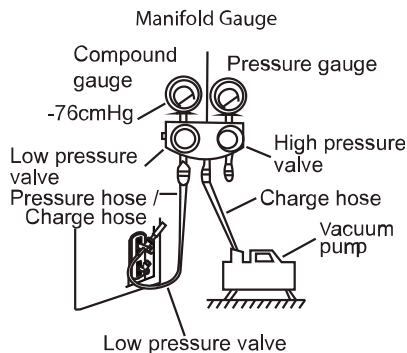

Fig. 46 — Manifold
3. Fully open the low side of manifold gage (see Fig. 46).